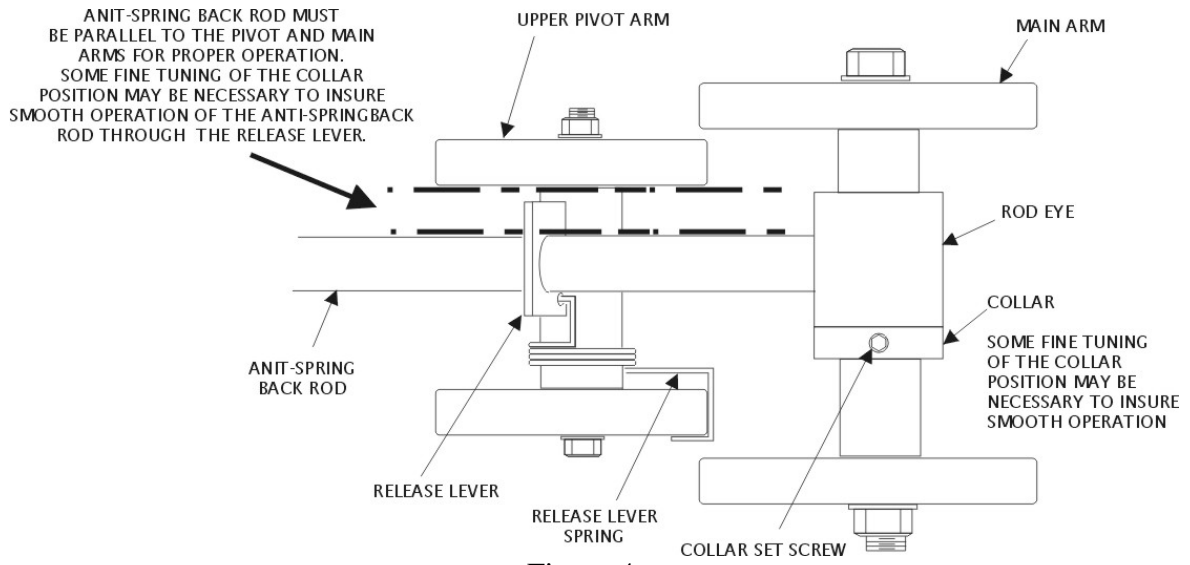

Figure 4.
13. Locate the collar so the anti-spring back rod is parallel to the main and pivot arms per Figure 4 and tighten collar set screw.
The anti-spring back rod MUST be located parallel to the main and pivot arms for proper operation per Figure 4.